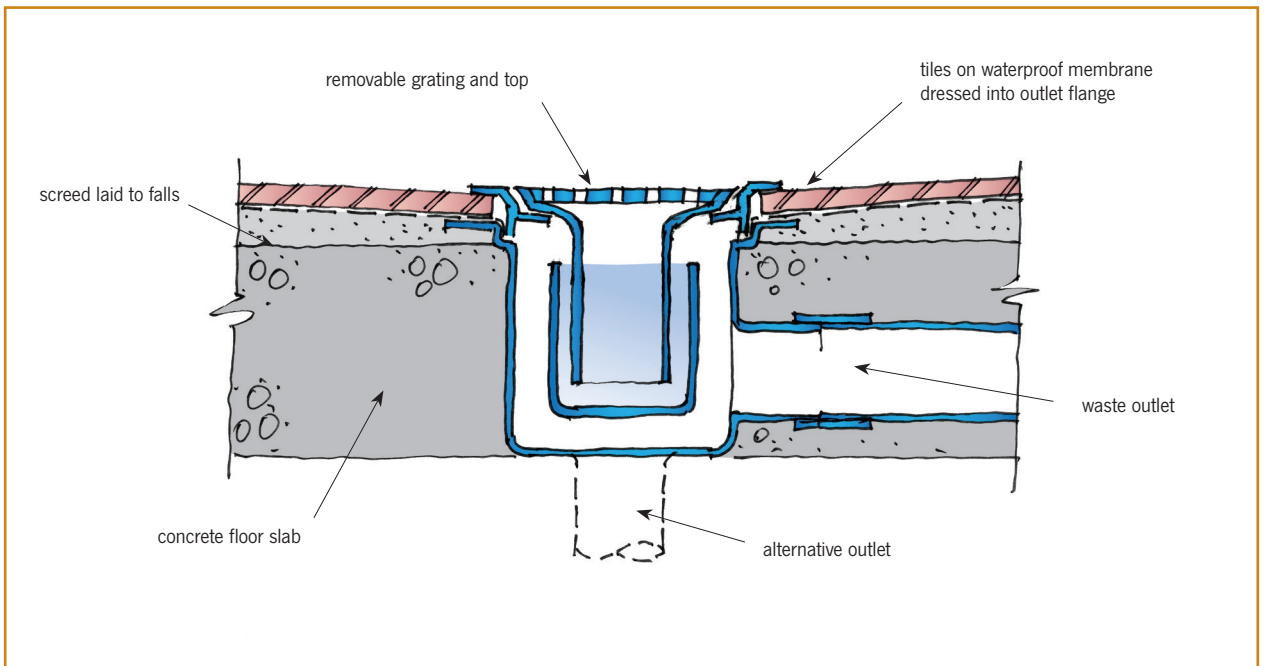

Figure 7. Dressing the membrane to the floor outlet.
9.2.2 Ensure floor waste outlets have a sufficiently wide flange and are designed for use with waterproofing membranes and tiles. Prepare the flange as recommended by the membrane manufacturer. Rebate the flange into the substrate so that the surface is flush for effective drainage, and seal the waterproofing system onto the flange (Figure 7). Some manufacturers make outlets with low-profile traps for tiled shower floors that can be easily removed for cleaning.